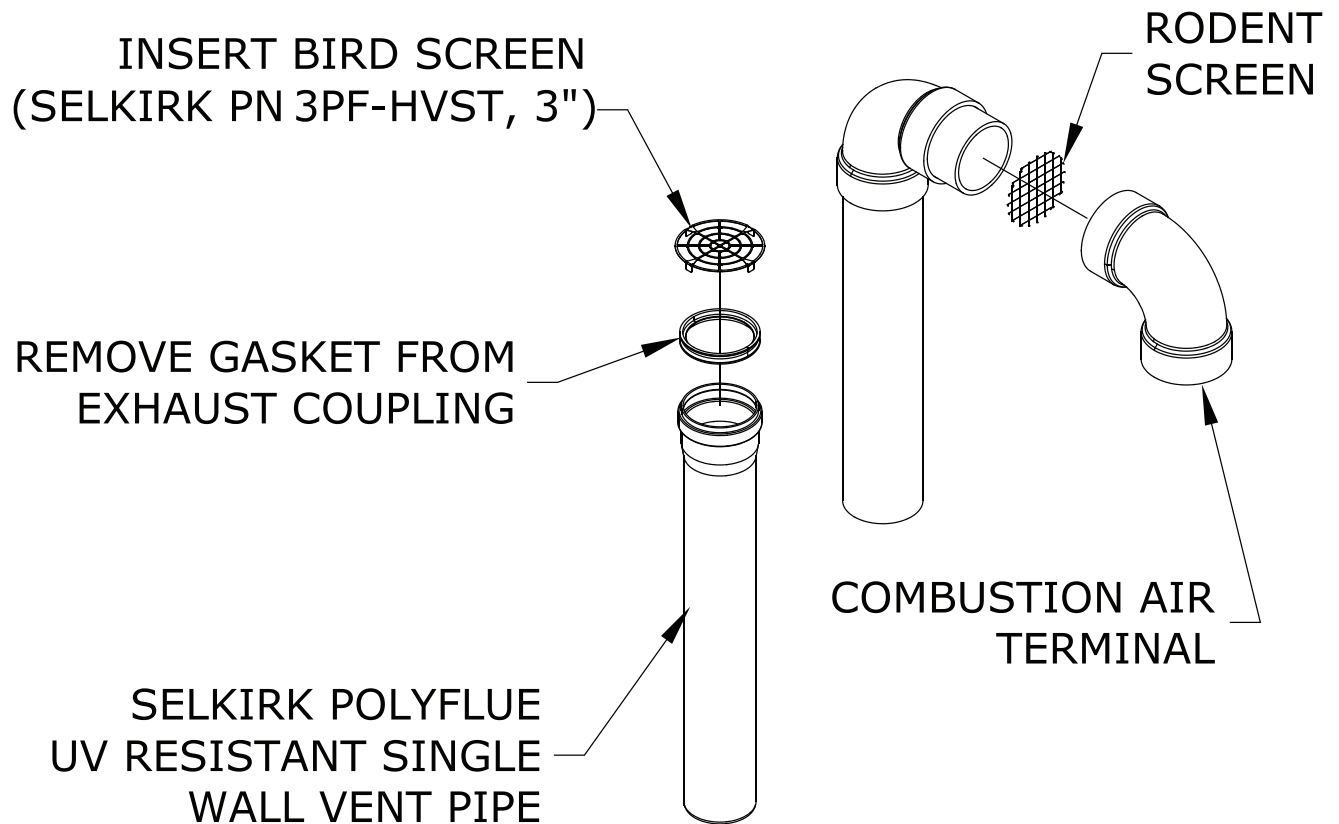

Figure 7.43: Installation of Selkirk Polyflue UV Resistant Single Wall Vertical Terminal
- a. See Figure 7.43 for the proper orientation of twin pipe vertical terminals.
- c. A 180° bend (or two 90° elbows) are installed on the top of the air intake pipe. If two 90° elbows are used, a rodent screen can be installed between them (Figure 7.43). If a 180° bend is used, install a rodent screen in the open side of the bend, using a ring made of PVC pipe. If desired, the termination fittings can be attached to the end of the intake pipes with field supplied stainless steel screws so that they can be later removed for cleaning and inspection. If this is done, drill a clearance hole in these fittings and a tap hole in the end of the intake pipes to accept these screws.